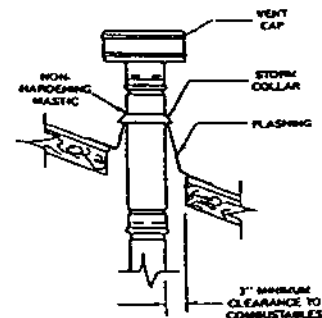

FIGURE 6
3. Top of chimney (see figure 6). All factory built fireplaces requiring outside air must use this method.
7. Apply non-hardening, waterproof mastic where the storm collar will meet the vent and flashing, slide storm collar down until it sets on the flashing and put cap on, twist to lock (see figure 6).